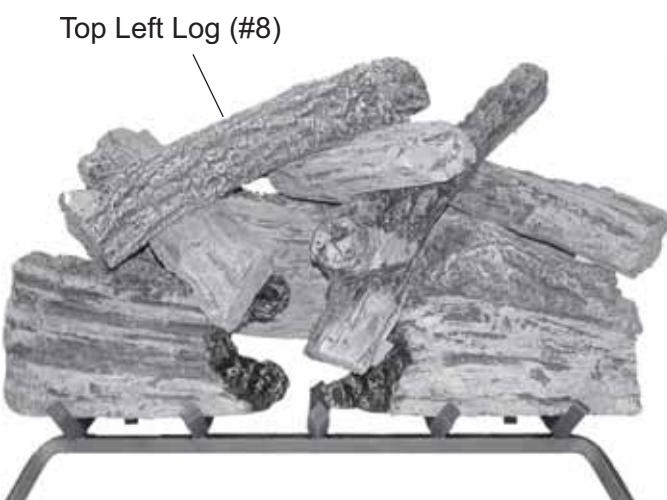

Figure 111 - Installing Top Left Log (#8)
10. Place front end of Top Left Log #8 on Log #7. Let back end of Log #8 rest on Log #6. *See Figure 111.*